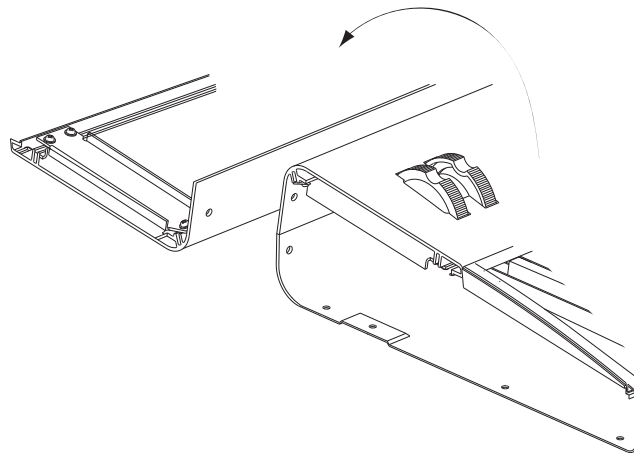

Figure 3-3 **Removing top enclosure**
7. Slowly turn the top enclosure over and place it face down onto the foam blocks that you have placed behind the unit (see Figure 3-3 below.)